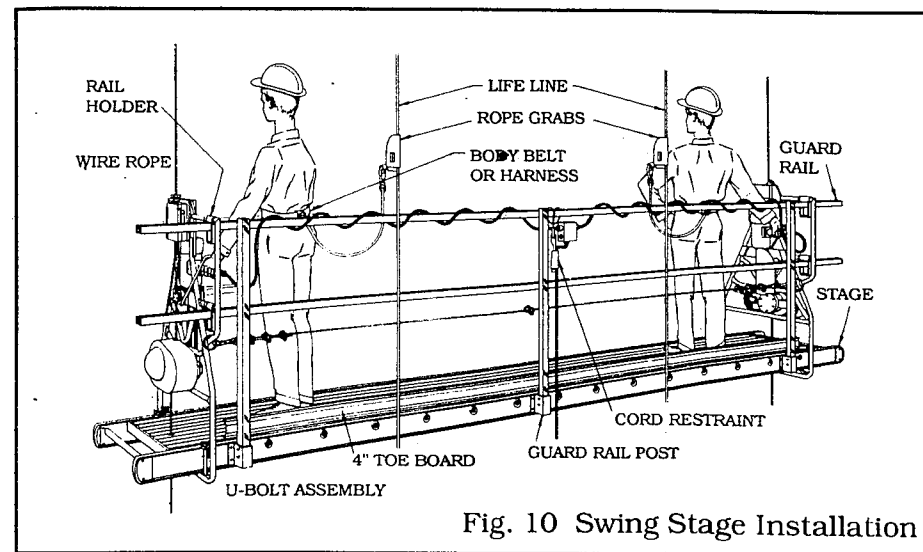

Fig. 10 Swing Stage Installation
- c. Staging and scaffolds used must conform to all current code requirements (See Fig. 10.)
- l. Life lines must be in conformance with OSHA requirements and certified to a minimum breaking strength of 5,400 lbs. Life lines must be tied off to an attachment point separate from the wire rope supporting the hoist. [See Fig. 10.]